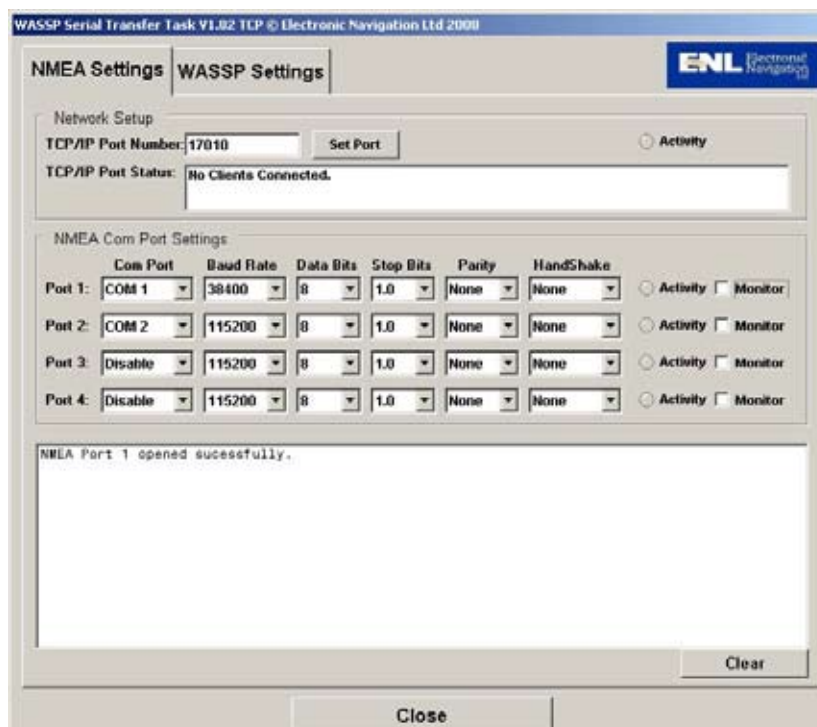

Figure 24 – NMEA Settings Tabbed Page
Clicking the **Check System** button performs a system check (Figure 24) identical to the system check performed when you opened the install program.
- ▶ NMEA Settings tab page. See Figure 24.